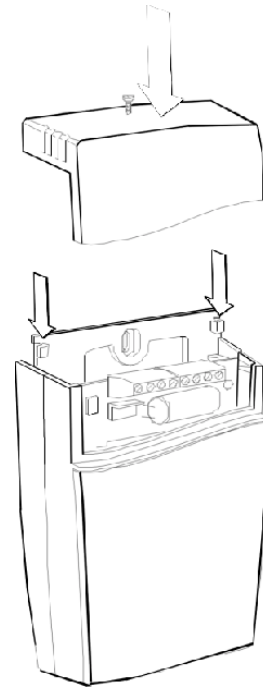

Fig. 6. Installing the wiring terminal cover
2. Place the wiring terminal cover by fitting the notches of the cover into the hooks of the wall plate. Tighten the locking screw (see Fig. 6).